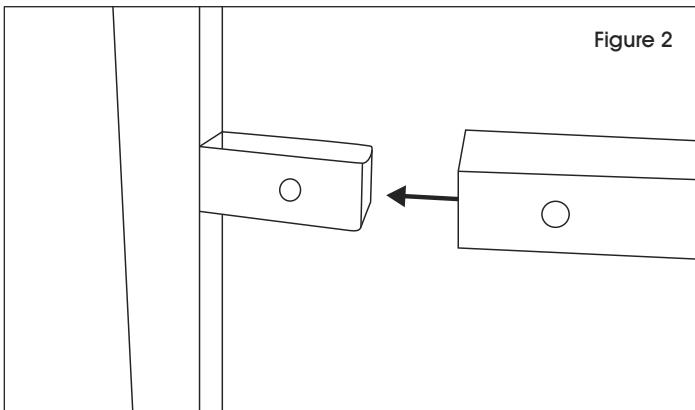

Figure 2
2. Connect remaining crossbars to the same A-frame by sliding ends over the knobs on the A-frame, ensuring the holes match up. (See Figure 2)